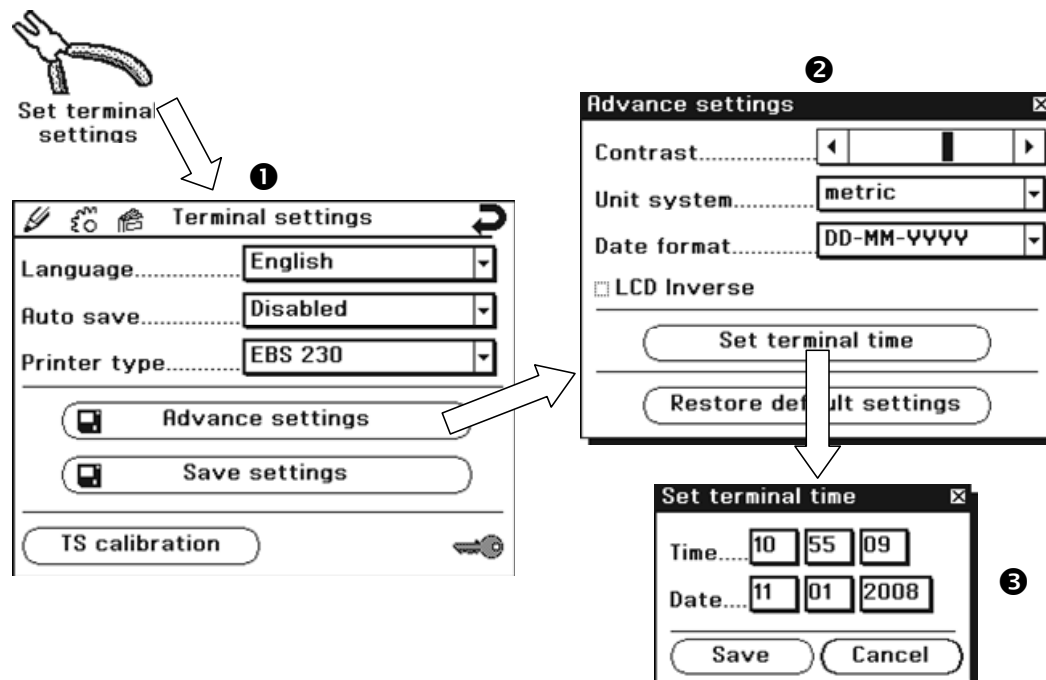

Fig. 6.3
The terminal settings screen ❶ (see Fig. 6.3) allows you to modify the following parameters:
When you go to the **Advance settings** window, ❷ (see **Fig. 6.3**) you can modify the following parameters: